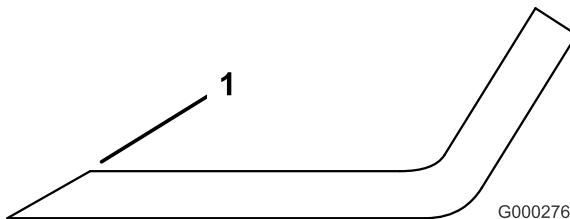

Figure 34
3. Examine the cutting edges of all blades. Sharpen the cutting edges if they are dull or nicked. Sharpen only the top side of the cutting edge and maintain the original cutting angle to ensure sharpness (Figure 34). The blade will remain balanced if the same amount of metal is removed from both cutting edges.